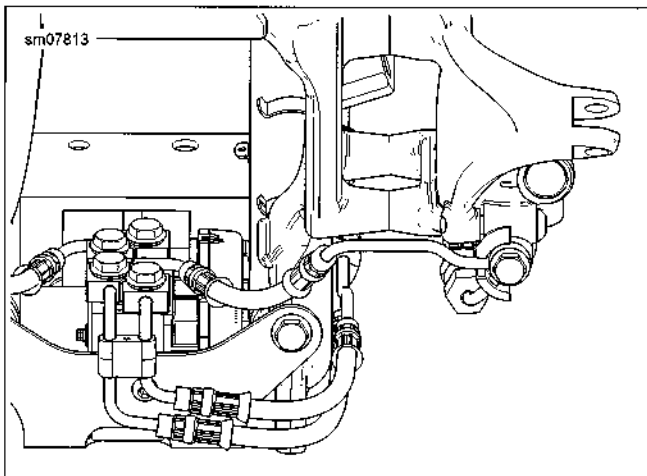

Figure C-12. Master Cylinder to EHCU Brake Line Routing
3. See Figure C-12. Loosely install banjo bolts with new sealing washers to: